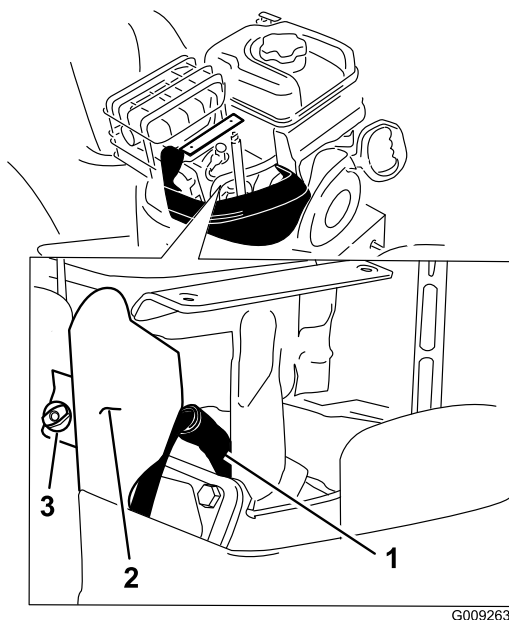

Figure 57
4. Remove the bracket thumb screw and the bracket (Figure 57).
5. Clean around the base of the spark plug (Figure 57).